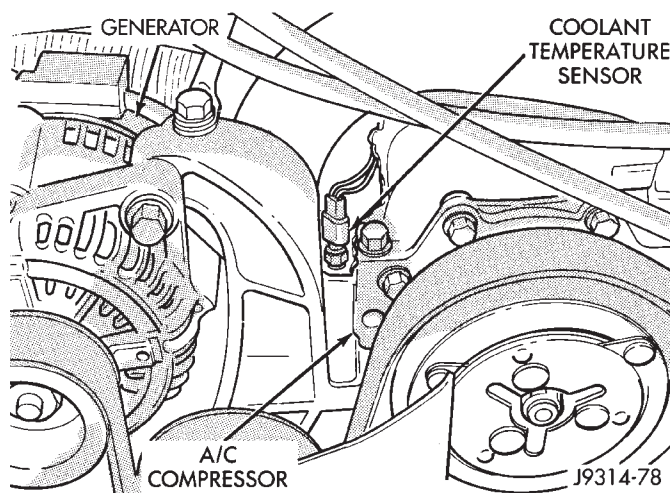

Fig. 55 Engine Coolant Temperature Sensor—5.2L/5.9L Engines
(1) Disconnect wire harness connector from coolant temperature sensor (Fig. 55).
(3) Test the resistance of sensor with a high input impedance (digital) volt-ohmmeter. Refer to SENSOR RESISTANCE (OHMS)—COOLANT TEMPERATURE SENSOR/INTAKE AIR TEMPERATURE SENSOR chart. The resistance (as measured across sensor terminals) should be within range shown in chart. If not, replace sensor.
(4) Test continuity of the wire harness between the PCM wire harness connector and the coolant sensor connector terminals. Refer to Group 8, Wiring for terminal/cavity locations. Repair the wire harness if an open circuit is indicated.
(5) After tests are completed, connect electrical connector to sensor. The sensor connector is symmetrical (not indexed). It can be installed to the sensor in either direction.